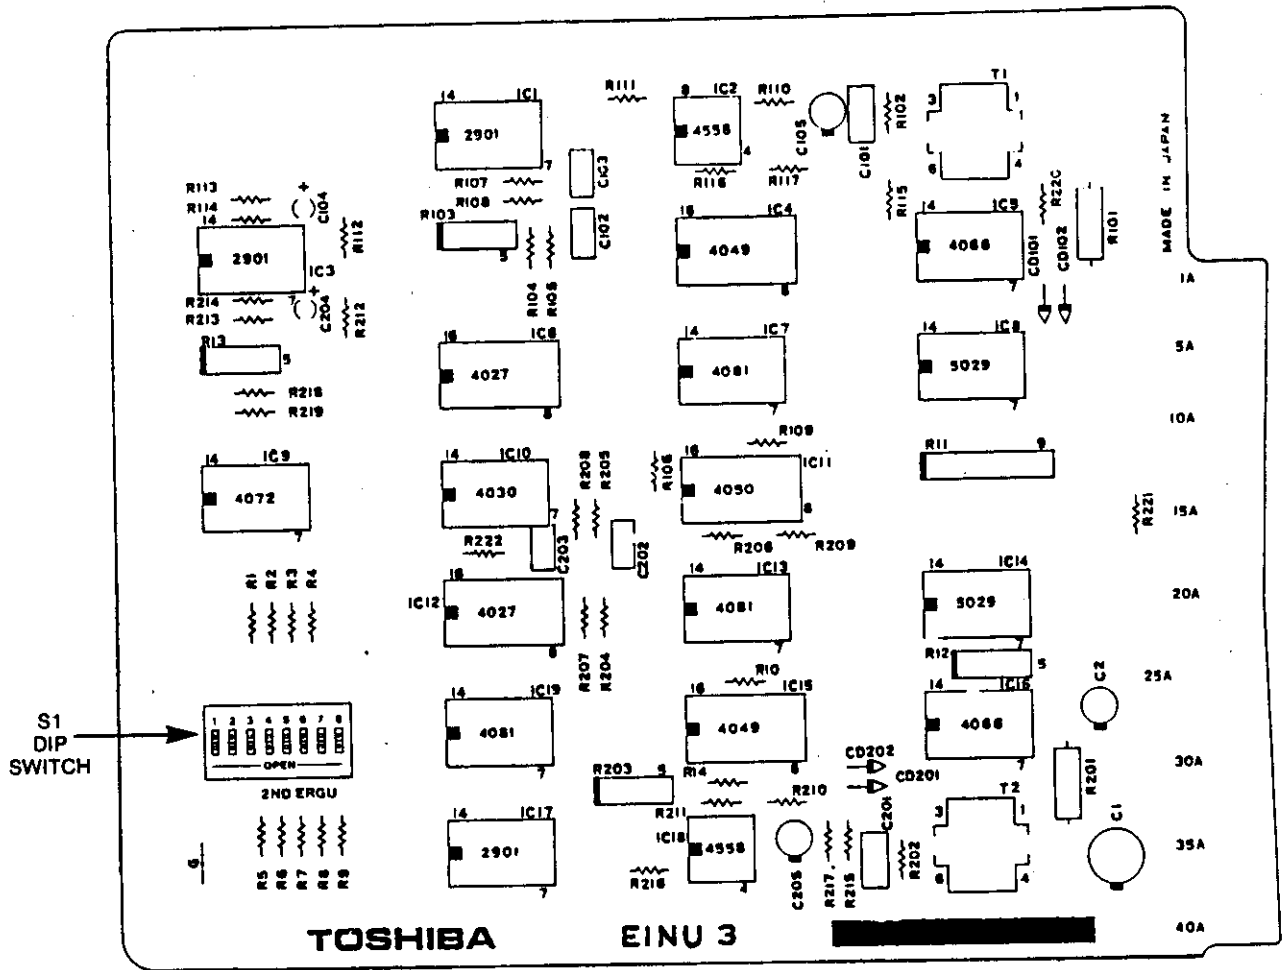

FIGURE 9 - EINU-3 PCB - PHYSICAL LAYOUT
5.1.2.1 Locate dip switch (S1) shown in Figure 9 on the EINU-3 PCB.